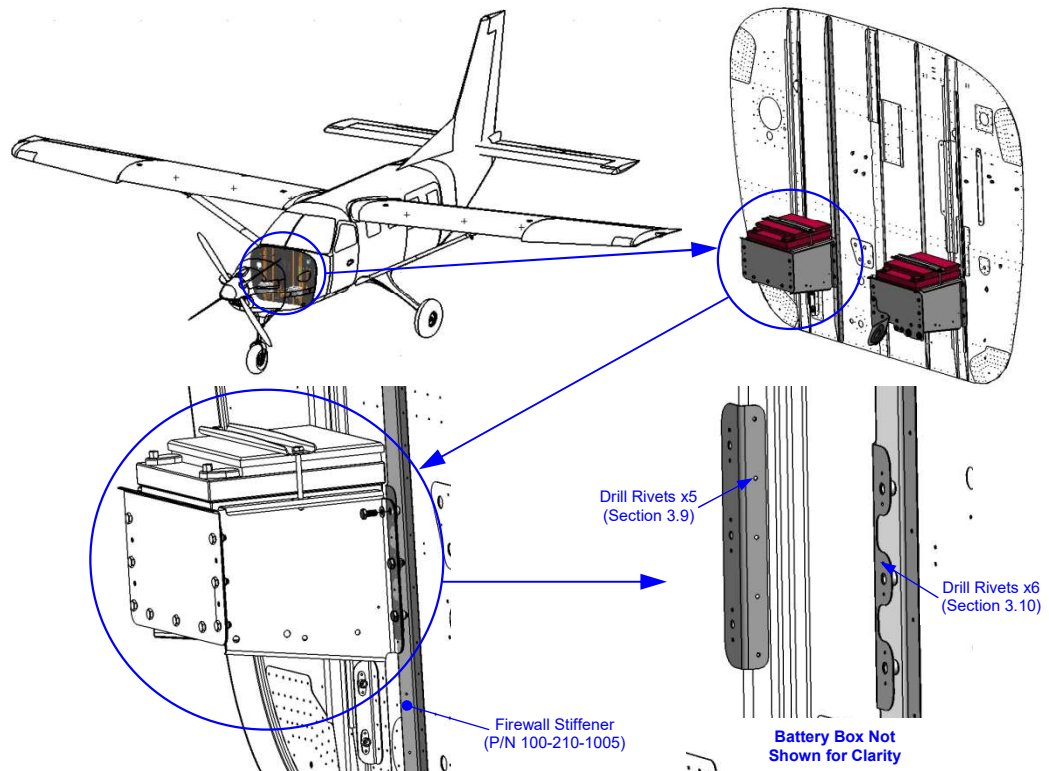

Figure 3-1: Drill-Down for Fastener Removal
Drill out the five (5) fasteners securing each of the aluminum battery box mounting brackets (P/N 100-210-1027) to the firewall; refer to **Figure 3-1**. Remove and discard the mounting brackets.
Drill out the two (2) fasteners securing each nut plate to the stainless steel firewall stiffener; refer to **Figure 3-1**. Remove and discard the nut plates.